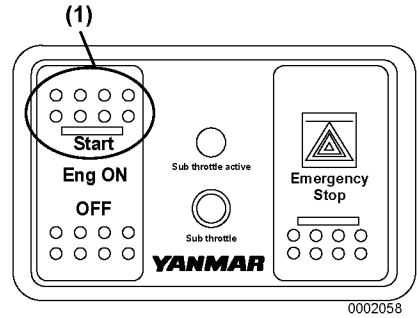

Figure 3
5. Press the Eng ON (Figure 3, (1)) switch and the following changes occur:
To start the engine, press Start (upper half) of Eng ON switch (Figure 3, (1)).